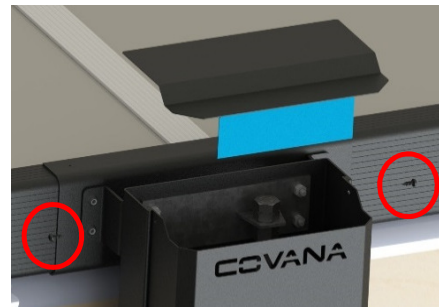

Figure 30
24. Reinstall the top plate on each of the sleeves with the two screws holding it in place (Figure 30).